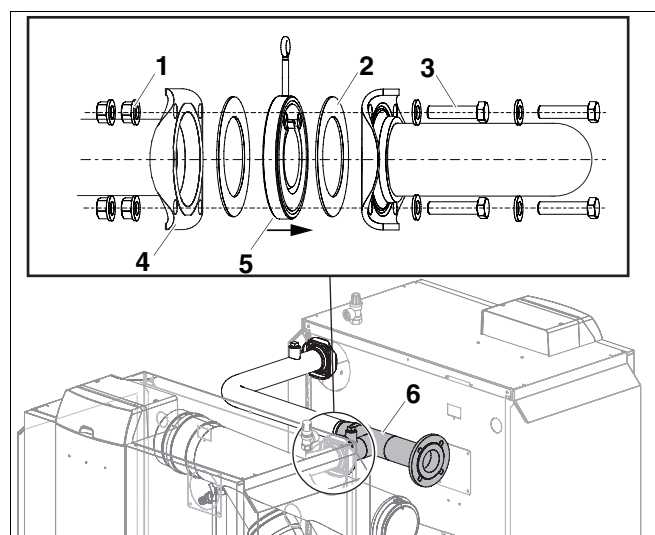

Fig. 6 Fitting flow piece onto the second boiler
- The check valve (Fig. 6, **Item 5**) remains fitted to the flow according to the flow direction.
- Place gasket (Fig. 6, **Item 2**) on the check valve.
- Screw flow piece flange (Fig. 6, **Item 6**) onto the flow flange (Fig. 6, **Item 4**) on the second boiler, using four bolts (Fig. 6, **Item 3**) and nuts (Fig. 6, **Item 1**).